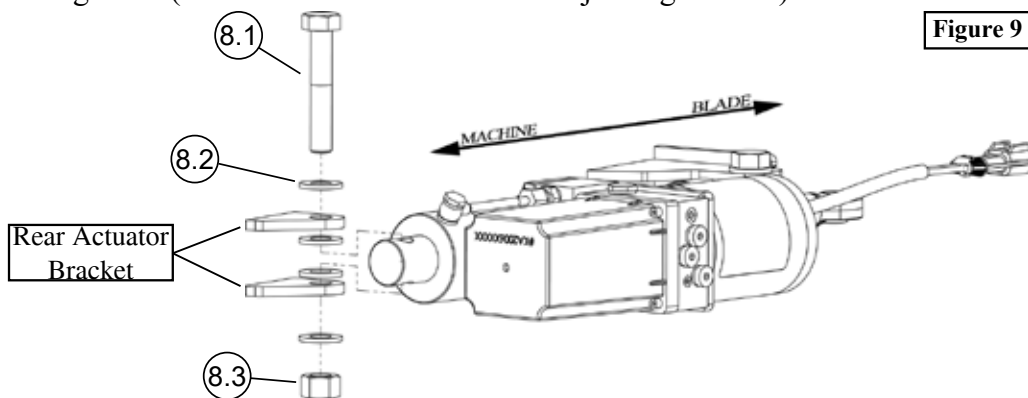

Figure 9
1. Place bolt (8.1) through flat washer (8.2), top tab of rear actuator bracket, flat washer (8.2), Hydraulic Actuator (7), flat washer (8.2), bottom tab of rear actuator bracket, and flat washer (8.2). Place nylock nut (8.3) onto bolt (8.1) as shown in Figure 9. (This orientation of hardware is just a guideline)